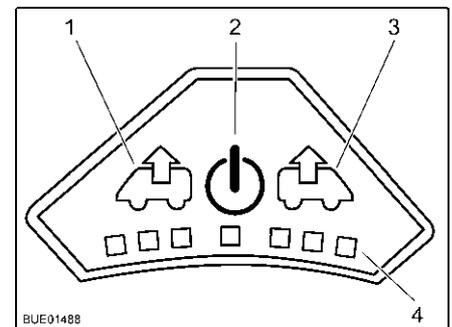

Fig. 117 Control panel for fan
**Switching on:** ■ Press the On/Off button (Fig. 117,2). The fan runs in comfort mode (venting at slowest fan speed).
**Venting:** ■ To increase the fan speed: Press the Vent button (Fig. 117,1). The fan speed in the venting direction increases by one level. LEDs (Fig. 117,4) show the operating levels.
■ To lower the fan speed: Press the Aerate button (Fig. 117,3). The fan speed decreases by one level.
**Aerating:** ■ To increase the fan speed: Press the Aerate button (Fig. 117,3). The fan speed in the aerating direction increases by one step. LEDs (Fig. 117,4) show the operating levels.
■ To lower the fan speed: Press the Vent button (Fig. 117,1). The fan speed decreases by one level.
**Switching off:** ■ Press the On/Off button (Fig. 117,2). The fan stops, the LEDs go out.